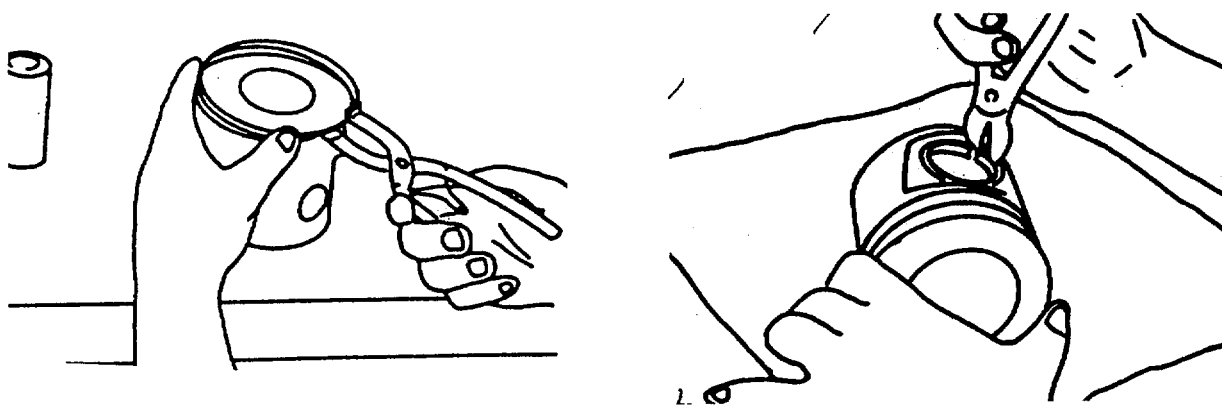

FIGURE 4-34. Removing Piston and Retaining Rings.
- a. Remove retaining rings (1, FIGURE 4-34).